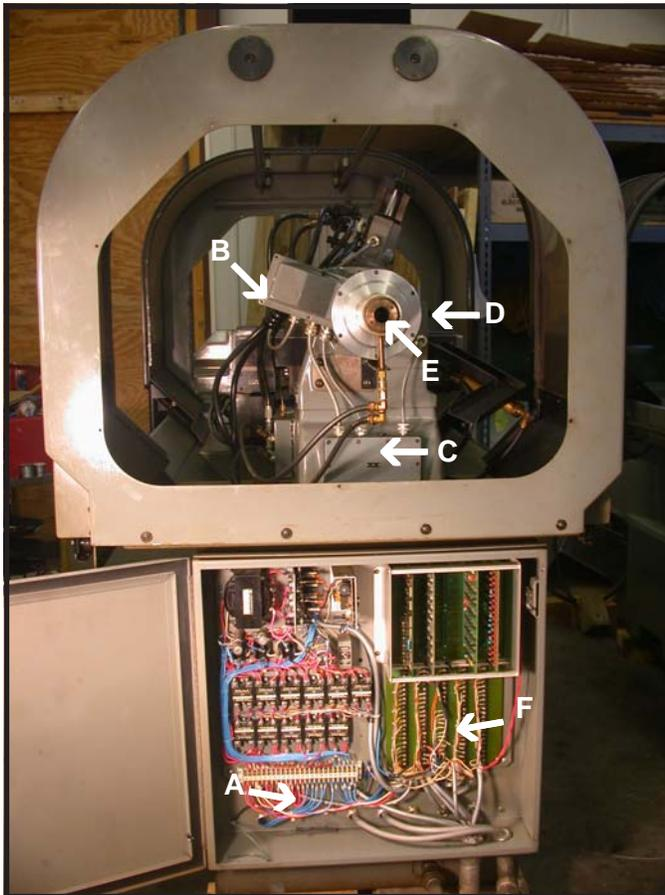

Figure 2.1.4
The collet closer needs to be removed, so the feedback unit can be replaced and the new spindle belt can be installed. The spindle lock button (Figure 2.1.4 - D), locks the spindle so that the collet closer can be removed.
Be careful not to damage the other wires on the terminal strip. The old feedback cable (C) will have the connector for the new spindle encoder butt spliced to it. The wiring diagram is in Table 2.5.1. If additional cable length is needed remove the cable access cover (see Figure 2.1.4 - C). The original Hardinge cable sometimes has the 4th pair of wires cut off short. The outer insulation on the cable will need to be stripped back to reveal these wires.